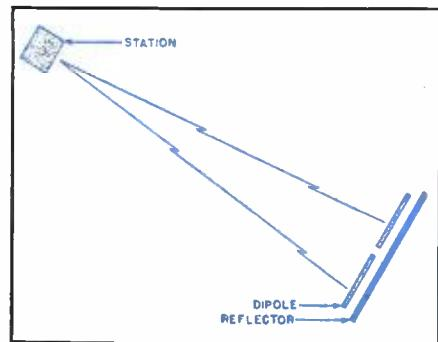

Fig. 7. Illustrating position of dipole and reflector in relation to transmission.
2. The dipole must be broadside to the transmitter (length of the antenna perpendicular to the direction of wave travel). See Fig. 7. Do not mount the antenna in such a position as to have an intervening tall building or structure of any great mass in the direct path between transmitter and receiver. This is particularly the case when the structure is only a short